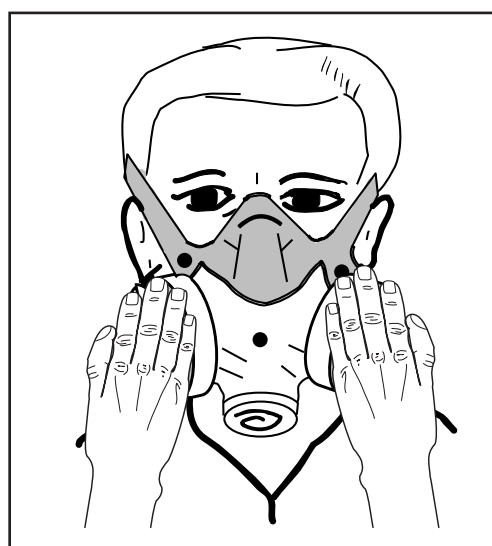

Figure 4-5. Negative pressure seal check.
1. Cover the filter openings with the palms of hands (Figure 4-5). Do **not** push the respirator into your face too hard, or the check will be inaccurate.